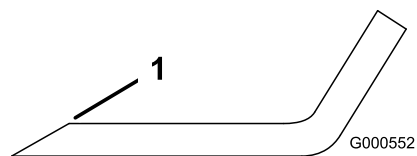

Figure 56
1. Use a file to sharpen the cutting edge at both ends of the blade (Figure 56).
Note: If the blade is not balanced, file some metal off the end of the sail area only (Figure 56).